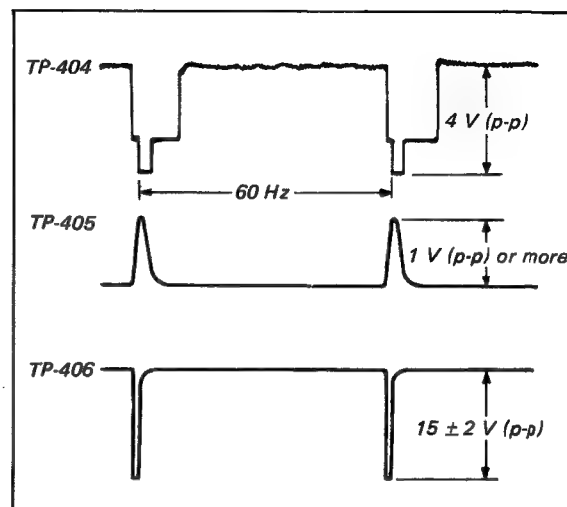

Fig. 6-1. Sync separator check
Check: Waveforms shown in Fig. 6-1.
2. Connect the scope to TP-404, TP-405, and TP-406 and check that the waveforms shown in Fig. 6-1 are correct.